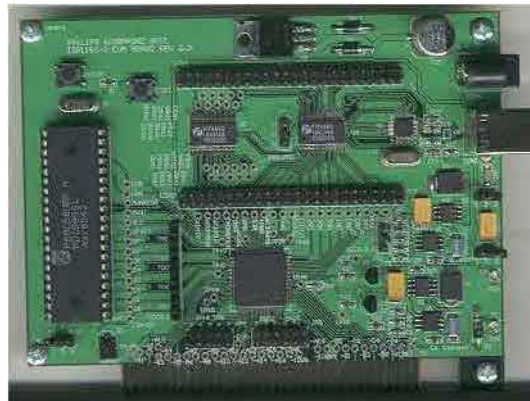

Fig 1. ISP1183 eval board
With this set up, you can easily evaluate the features of the ISP1183, and develop firmware and product prototype. Fig 1 shows the ISP1183 evaluation (eval) board.
- ISP1183 eval board (see Fig 1).